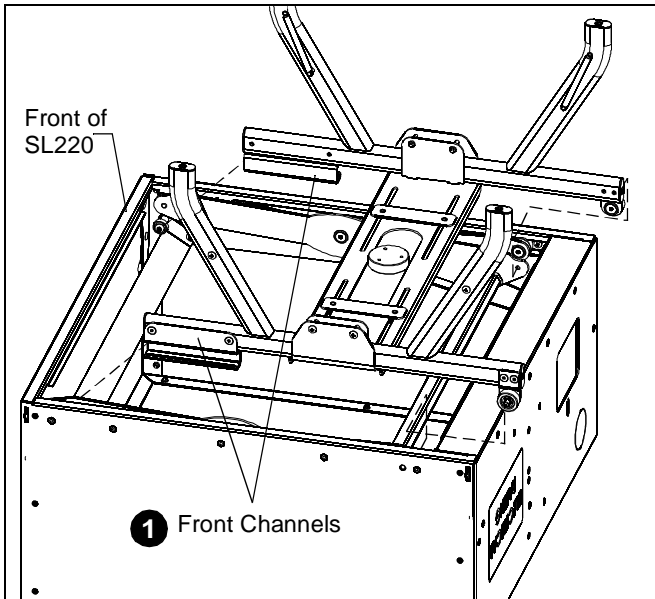

Figure 18
1. Slide front channels of projector cradle forward onto the SL220 bearings. (See Figure 18)